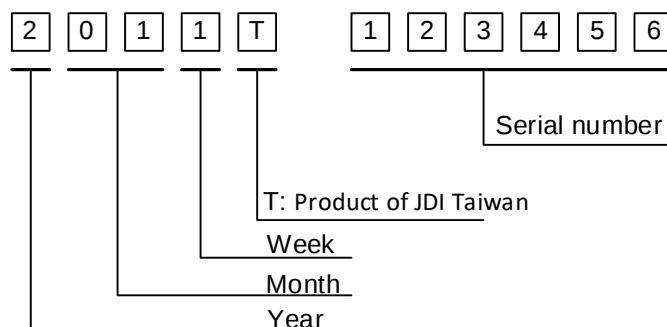

Fig. 13.1
- 1) The lot mark is showing in Fig.13.1. First 4 digits are used to represent production lot, T represented product of JDI Taiwan, and the last 6 digits are the serial number.